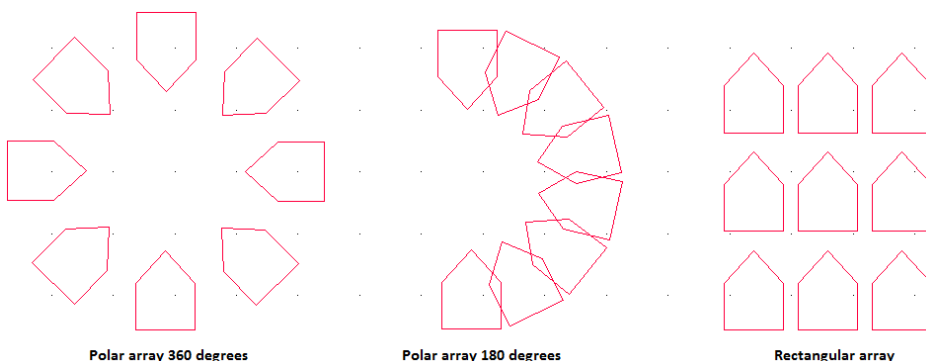

Fig. 132 – examples of arrays in 2D
- A polar array will be created (Fig. 132 – illustration on the left and in the middle).